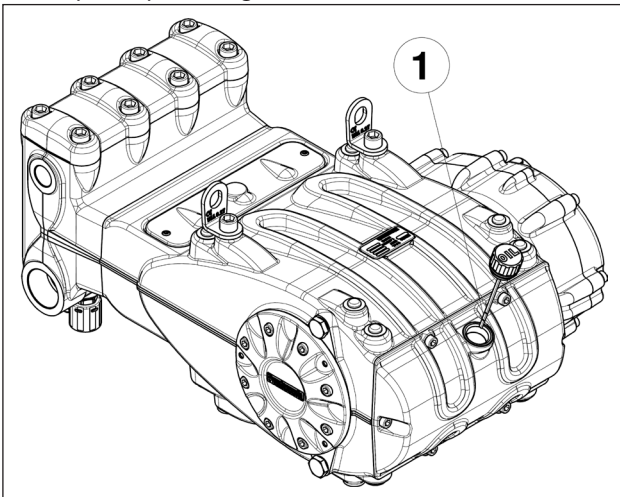

Fig. 8
5. Oil in the pump casing is at the required level, verified with a dipstick (pos. ①, Fig. 8).